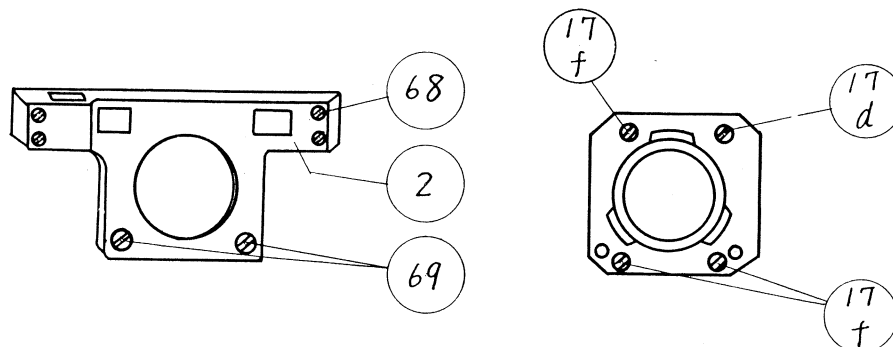

Fig. 1 Removal of Front Cover and Focusing Mount assembly
- (1) Remove the camera back. (Fig. 1)